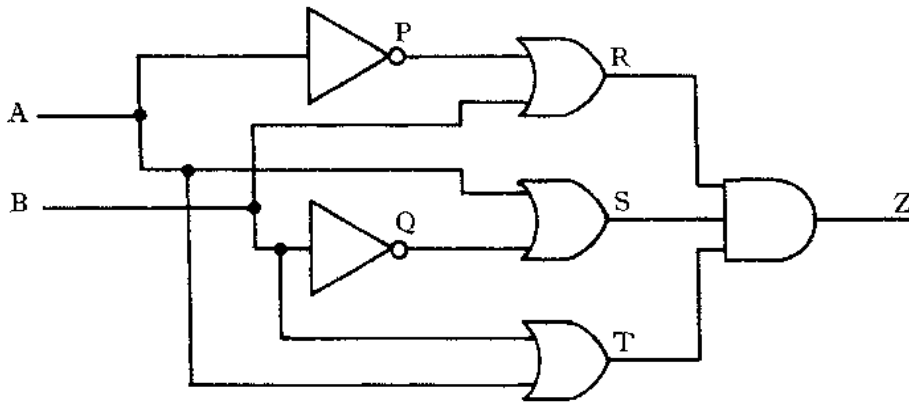

Figure Q8
8. A logic diagram is shown in Figure Q8.
- (c) Draw a simplified logic diagram, using only NAND gates, which will operate in exactly the same way as the logic gates shown in Figure Q8. 2
- (10)**